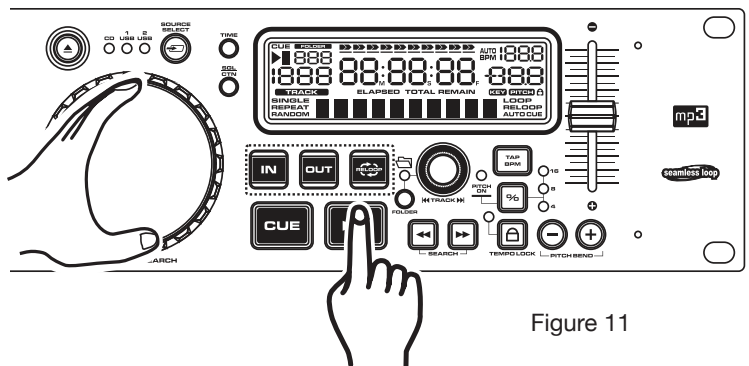

Figure 11
This feature allows you to scroll through a track to set a cue, or loop point. To use the scroll function you must first be in Pause Mode or Cue Mode. Once you are in Pause or Cue mode, use your finger tip or hand to turn the *JOG WHEEL (18)* to scroll through the track (figure 11). Turning the wheel in a clockwise direction will advance the frame search and turning the wheel in a counter-clockwise direction rewinds the frame search. When you use the *JOG WHEEL (18)* the monitor (headphone level) of a mixer allows you to here what you are scrolling through. Once you reach your desired starting point you can set a cue (starting) point by pressing the *PLAY/PAUSE BUTTON (15)* as in figure 11. Pressing the *CUE BUTTON (16)* will return the disc to the cue point just set.